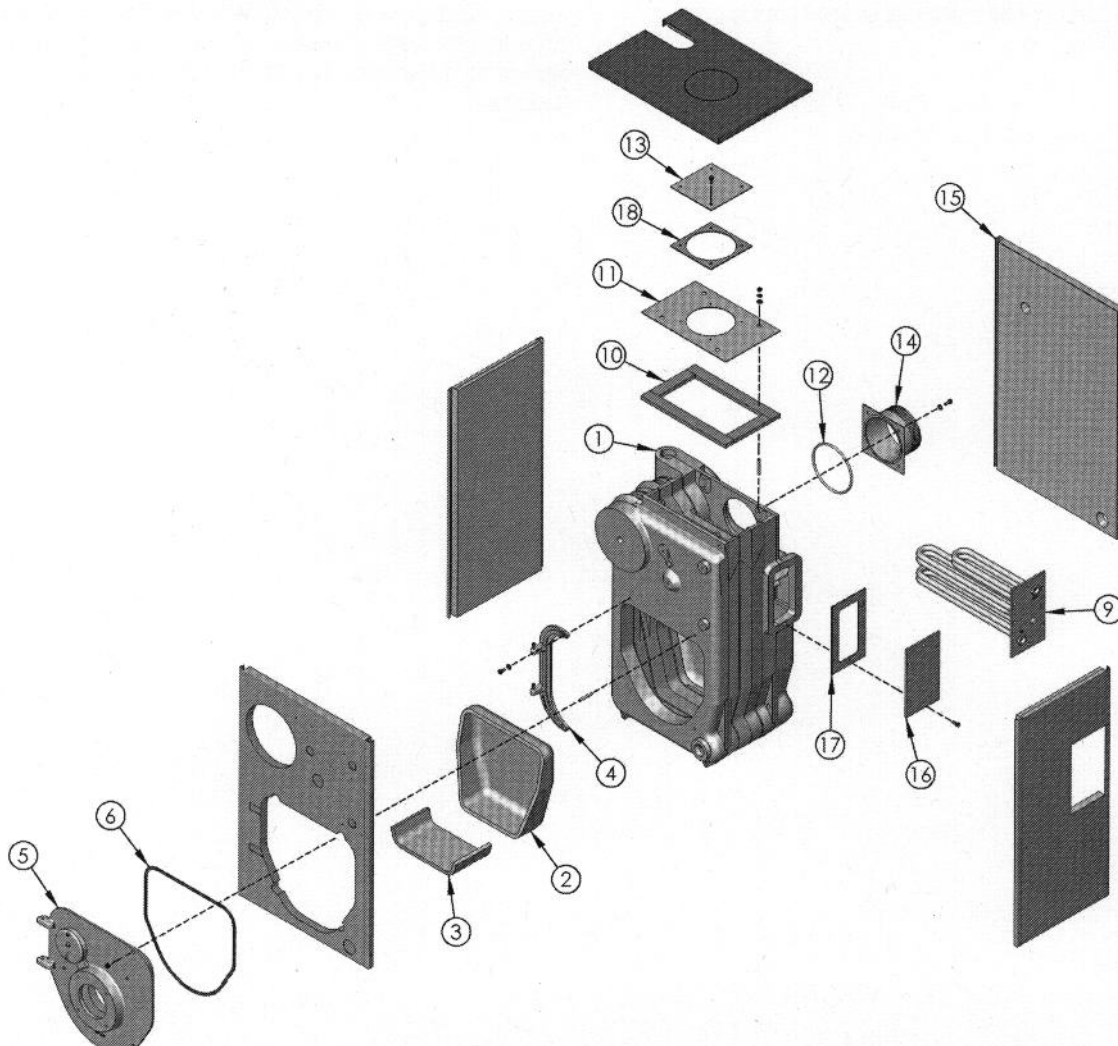

Figure 2.1: Steam Boiler
2. Refer to Figures 2.1 and 2.2 for exploded view of boiler while checking and/or assembling parts of the boiler.
3. On packaged boilers, open burner mounting plate (item 5) at this time to make certain the target wall (item 2) is seated in the back of the combustion chamber. For E4 & E5 models the ceramic fiber blanket base liner (item 3) should be lying flat on bottom of combustion chamber between target wall and burner mounting plate. Close burner mounting plate.